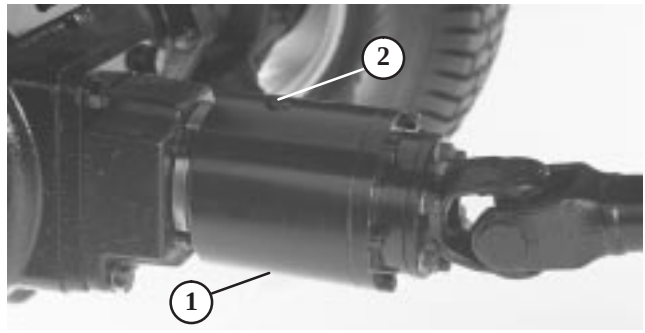

Figure 58
3. Rotate clutch so check plug is positioned downward (Fig. 58).